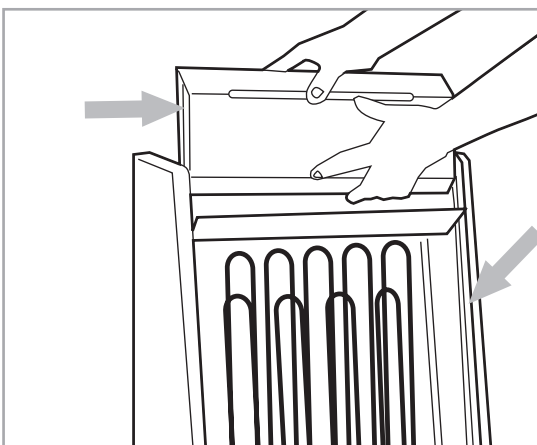

Figure 3.4
- 3) Install the heater blocks by aligning the grooves on their sides with the rails on the inside of the heater sides and lowering the blocks carefully into place (see Figure 3.4).